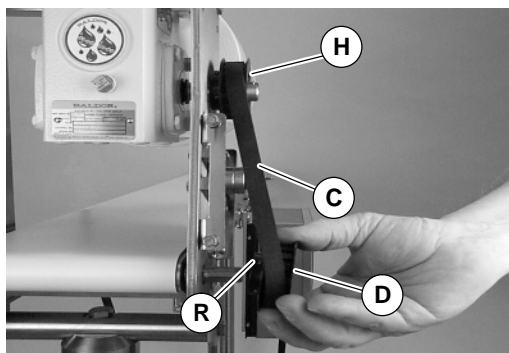

Figure 18
3. Remove timing belt (C).
**NOTE:** If timing belt does not slide over pulley flange, loosen driven pulley set screws (R of Figure 18) and remove pulley with belt. For re-installation, see steps 5 and 6 on page 7.